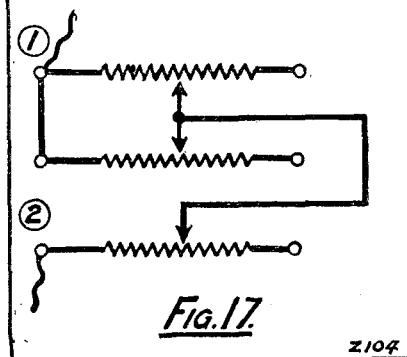

Fig. 17.
Fig. 17 shows one terminal at the position marked (1), the other terminal at the position (2), and the left-hand ends of the upper and middle resistances connected together and disconnected from the lower element, whilst the common slider between the upper and middle elements is directly connected to the slider on the lower element. Here a moment's consideration will show that the resistance in circuit is equal to the left-hand portions of the upper and middle